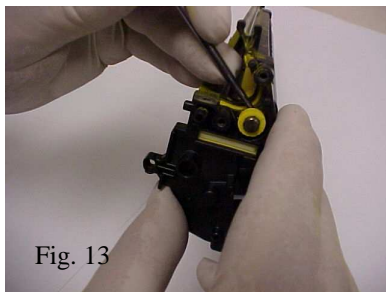

Fig. 13
14. Remove the supply roller sealing end foam from the axle and set aside (Fig. 13).